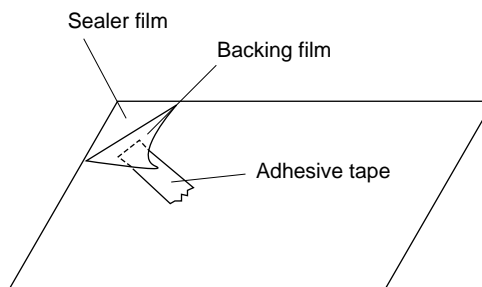

Figure C-9. Sealer film
1. Put the adhesive tape on the backing film of the sealer film as shown in Fig. C-9.